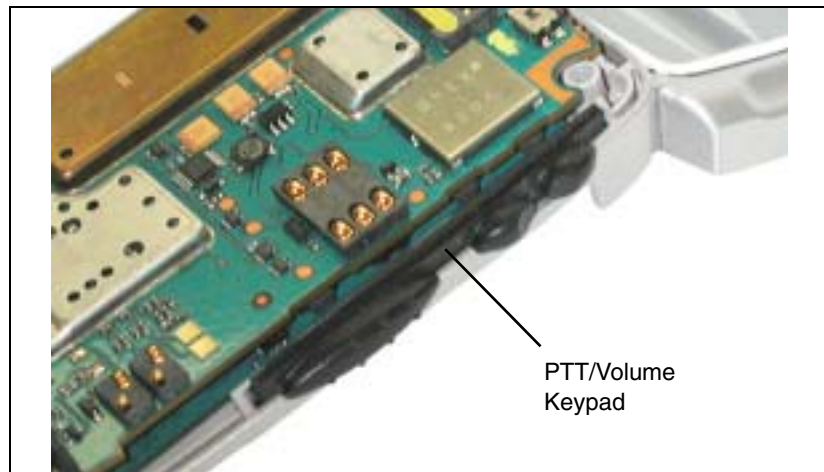

Figure 7-5.
2. Locate PTT/Volume Keypad in the Back Housing (see Figure 7-5). Grasp and pull straight out.